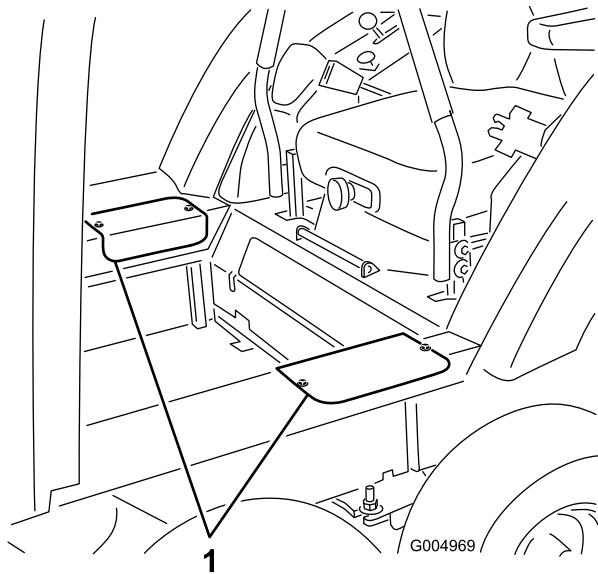

Figure 76
6. Remove the two screws securing each side access cover and remove the covers (Figure 76).